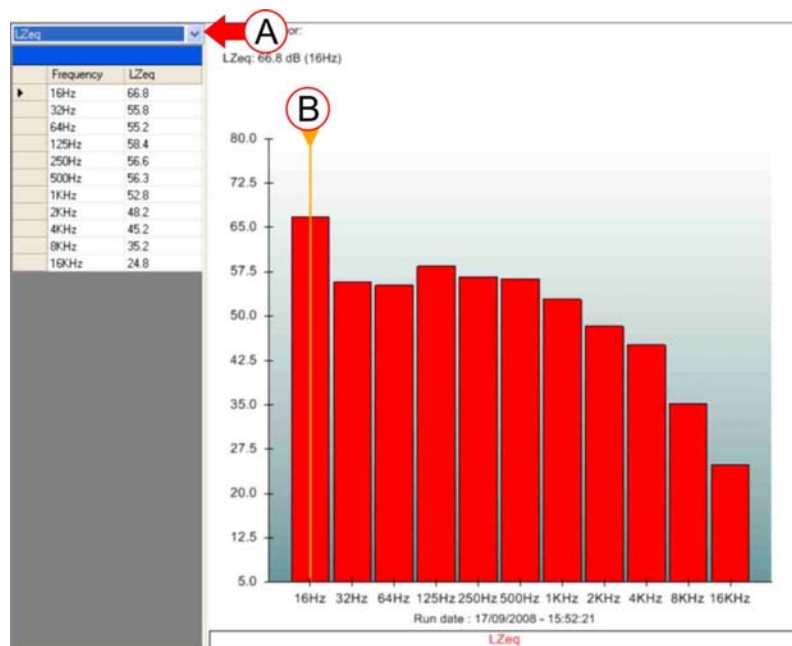

Figure 24 Octave Bar Graph
If octave data is available, a table of the octave data is on the left of the bar graph (Refer to Figure 24) and drop down arrow (A) is used to select a parameter to be displayed. It can be copied in the same method as described above. Use the mouse to move the Cursor (B) across the graph to see the dB level of each bar. Right click on the bar graph and select Copy to place the graph on the clipboard.